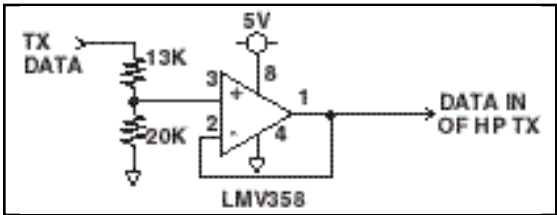

Figure 18A:
2) If the data rate is greater than 9600 baud, a high-slew rate operational amplifier can be used to scale the voltage as shown in figure 18A. The 5V serial data is converted to 3V by a resistor divider (13K/20K). Since the input impedance of this divider would affect the low-pass filter cutoff frequency, the operational amplifier is used as a unity-gain impedance converter to provide a low-impedance source to the data input pin of the transmitter.